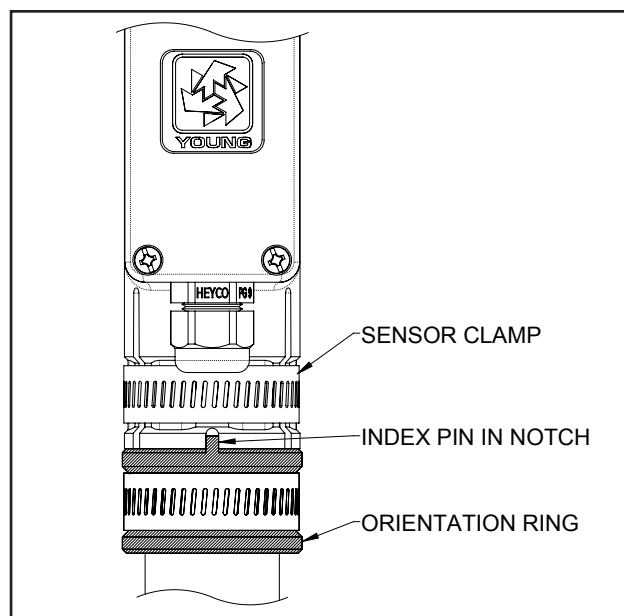

Fig 4.2.3 Proper Engagement of Orientation Ring with Sensor
- 4 Slide the orientation ring up so its guide pin is fully engaged in the sensor mounting post notch (Fig 4.2.3). Tighten the orientation ring band clamp to secure its position. **DO NOT OVER- TIGHTEN.**